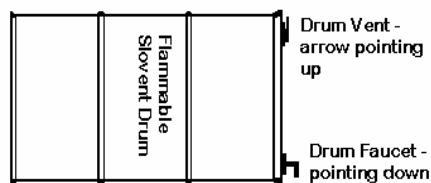

Fig. 2
6. Using non-sparking tools, screw faucet into bung cap hole tightly. When drum is placed horizontal in cradle, faucet must face downward (toward immediate edge of drum). (Fig 2 & 3)
7. Using non-sparking tools, screw vent cap into bung hole. When drum is placed horizontal in cradle, arrow on vent cap must be pointing up (toward immediate edge of drum). (Fig 2 & 3)
- Ensure drums being dispensed from have a drum vent correctly installed (drum vent should be screwed securely into bung with valve pointing up when drum is horizontal in drum cradle. (see Fig. 2 & 3)